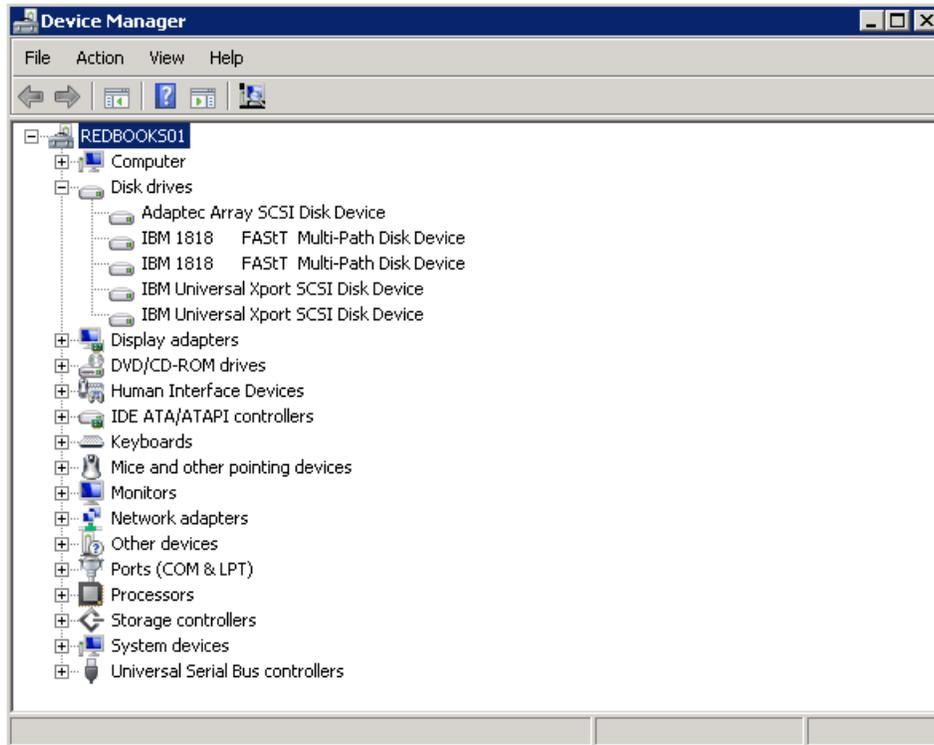

Figure 4-17 Displaying logical volumes and access LUNs
1. Go to the Windows device manager, and highlight the **Disks** folder. After everything is configured, connected, and mapped correctly, select from the Server Manager window **Action** → **Scan for hardware changes**. Observe the results shown in Figure 4-17.
2. Each logical drive is presented as an IBM XXX Multipath Disk Device under the Disk drives folder, where XXX is the product ID of the DS Storage subsystem. Notice that in Figure 4-17, there are two disks drives, IBM 1818, mapped to this host, the logical volumes from a DS5300 Storage System.